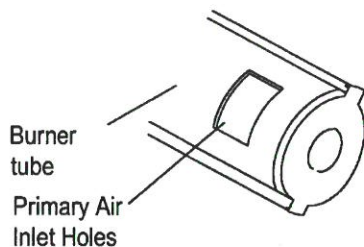
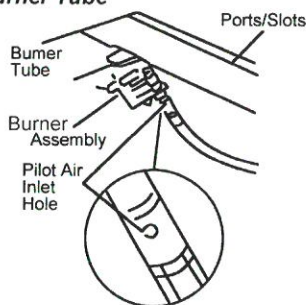

Figure 22-Injector Holder on Outlet Burner Tube
Figure 23-Pilot Inlet Air Hole
Figure 22 shows a correct burner flame pattern. Figure 23 shows an incorrect burner flame pattern. If burner flame is incorrect:
2. Inspect burner, pilot and primary air inlet holes on injector holder for dust and dirt (See Figure 22).
Clean the pilot assembly also. A yellow tip on the pilot flame indicates dust and dirt in the pilot assembly. There is a small pilot air inlet hole about two inches from where the pilot flame comes out of the pilot assembly (see Figure 23). With the unit off, lightly blow air through the air inlet hole. You may blow through a drinking straw if compressed air is not available.